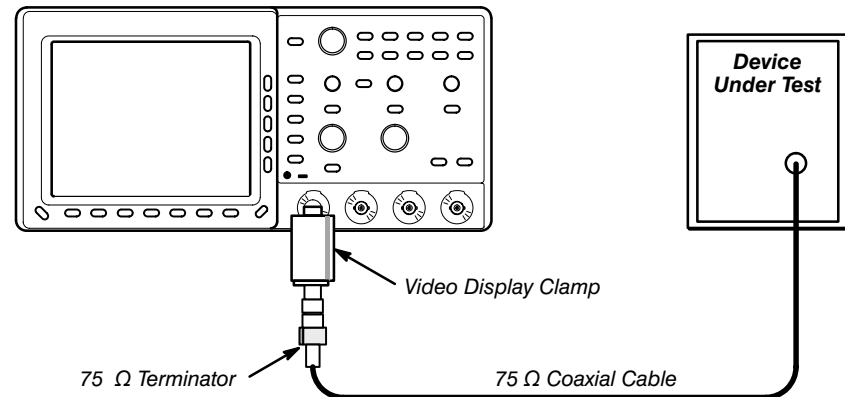

Figure 3: Viewing a Video Signal Directly with the Video Display Clamp
- Connect a video signal directly to the Video Display Clamp (see Figure 3).
1. Attach the Video Display Clamp to the input of the oscilloscope and apply the test signal to the input of the Video Display Clamp. See the examples provided in Figures 3 through 5.